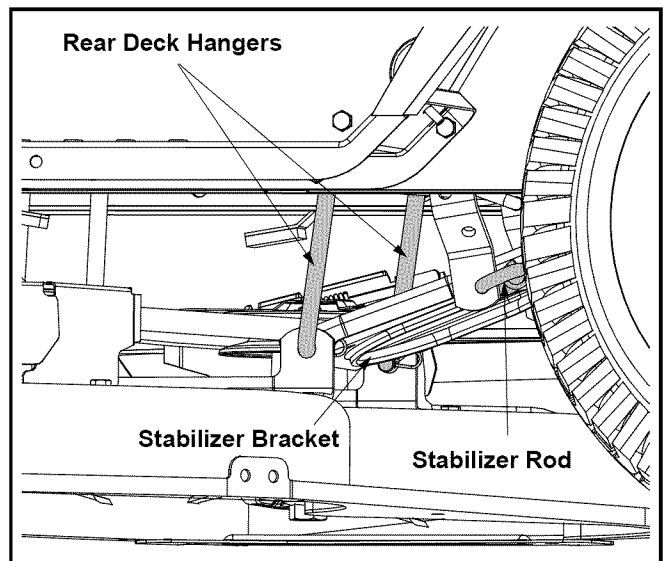

Figure 27
- Remove the hairpin clips which secure the rear deck hangers to the deck stabilizer bracket. See Figure 27. Retain the hairpin clips.
**NOTE:** The style and shape the stabilizer bracket and stabilizer rod vary. Yours may differ slightly from that shown in Figure 27.
**NOTE:** For normal service and maintenance, the deck stabilizer bracket doesn't need to be removed from the tractor. If removing the cutting deck in order to mount an attachment, however, remove the stabilizer bracket by simply removing the hairpin clip which secures it to the the stabilizer rod. See Figure 27.